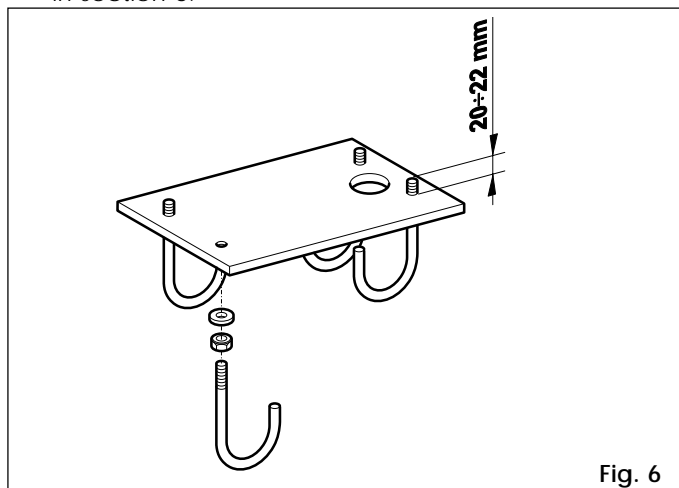

Fig. 6
- 1) Assemble the base plate, as shown in Figure. 6.